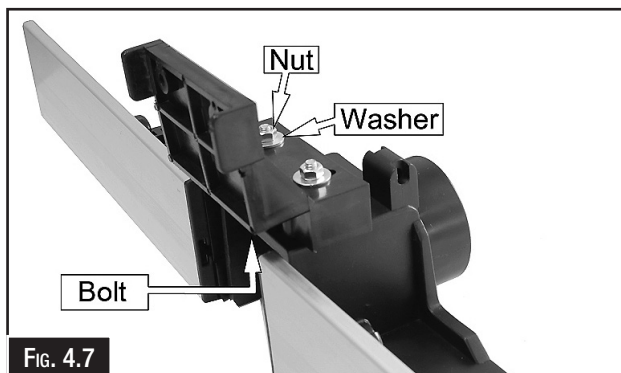

FIG. 4.7
2. Secure in place using 2 x M6 x 40 bolts (from below), 2 washers and 2 x M6 nuts supplied. (Fig. 4.7)